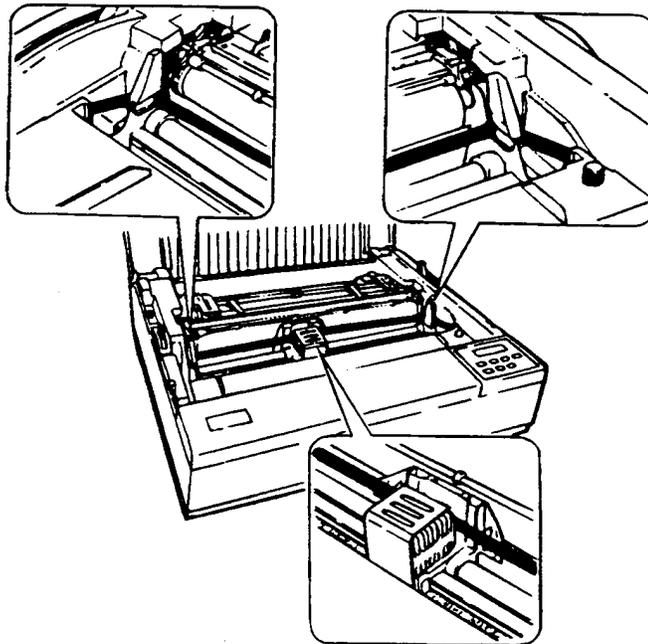

Figure 5-1. Model 577 ROP Ribbon Threading
- 7.1. Referring to the lower close-up view in Figure 5-1, disengage the ribbon from the vertical rectangular notches in the ribbon guides on the immediate right and left sides of the print head.
- 7.3. Carefully unhook the ribbon from both the left and right ribbon guides. See Figure 5-1.